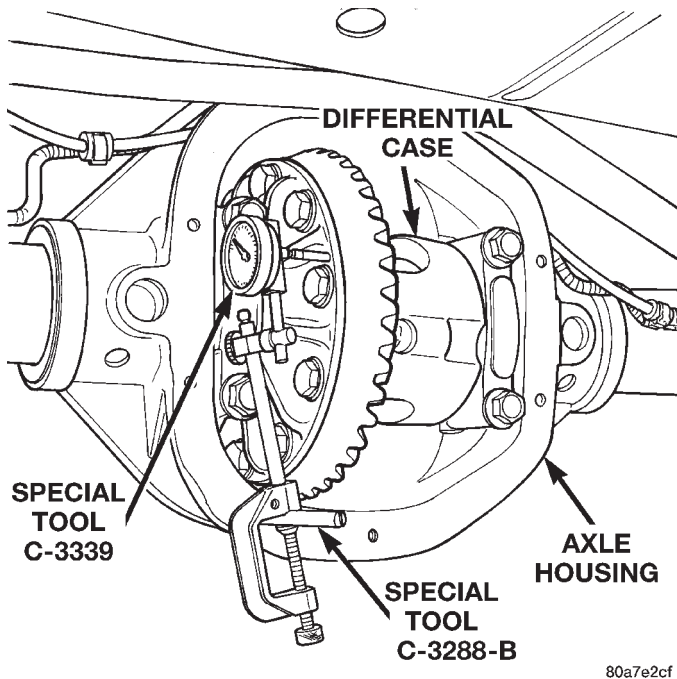

Fig. 75 Differential Side play Measurement
(6) Install the marked bearing caps in their correct positions. Install and snug the bolts.
(7) Thread guide stud C-3288-B into rear cover bolt hole below ring gear (Fig. 75).
(8) Attach dial indicator C-3339 to Guide Stud C-3288-B. Position the dial indicator plunger on a flat surface between the ring gear bolt heads (Fig. 75).
(9) Push and hold differential case to pinion gear side of axle housing.
(10) Zero dial indicator face to pointer.
(11) Push and hold differential case to ring gear side of the axle housing.
(12) Record dial indicator reading.
(13) Add the dial indicator reading to the starting point shim thickness to determine total shim thickness to achieve zero differential end play.
(14) Add 0.012 in. (0.3 mm) to the zero end play total. This new total represents the thickness of shims to compress, or preload the new bearings when the differential is installed.
(15) Rotate dial indicator out of the way on guide stud.
(16) Remove differential case, dummy bearings, and starting point shims from axle housing.
(17) Install pinion gear in axle housing. Install the yoke and establish the correct pinion rotating torque.
(18) Install differential case and dummy bearings in axle housing (without shims) and tighten retaining cap bolts snug.
(19) Position the dial indicator plunger on a flat surface between the ring gear bolt heads (Fig. 75).
(20) Push and hold differential case toward pinion gear.
(21) Zero dial indicator face to pointer.
(22) Push and hold differential case to ring gear side of the axle housing.
(23) Record dial indicator reading.
(24) Subtract 0.002 in. (0.05 mm) from the dial indicator reading to compensate for backlash between ring and pinion gears. This total is the thickness of shim required to achieve proper backlash.
(25) Subtract the backlash shim thickness from the total preload shim thickness. The remainder is the shim thickness required on the pinion side of the axle housing.
(26) Rotate dial indicator out of the way on guide stud.
(27) Remove differential case and dummy bearings from axle housing.
(28) Install new side bearing cones and cups on differential case.
(29) Install spreader W-129-B on axle housing and spread axle opening enough to receive differential case and side bearing shims.